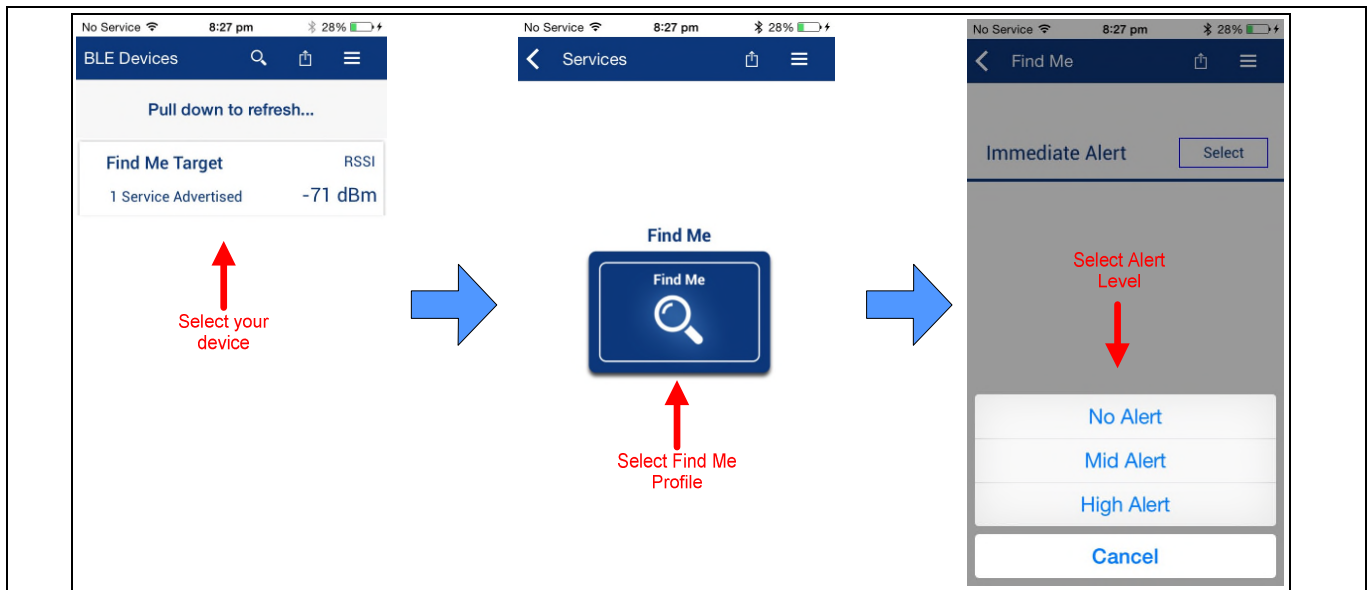
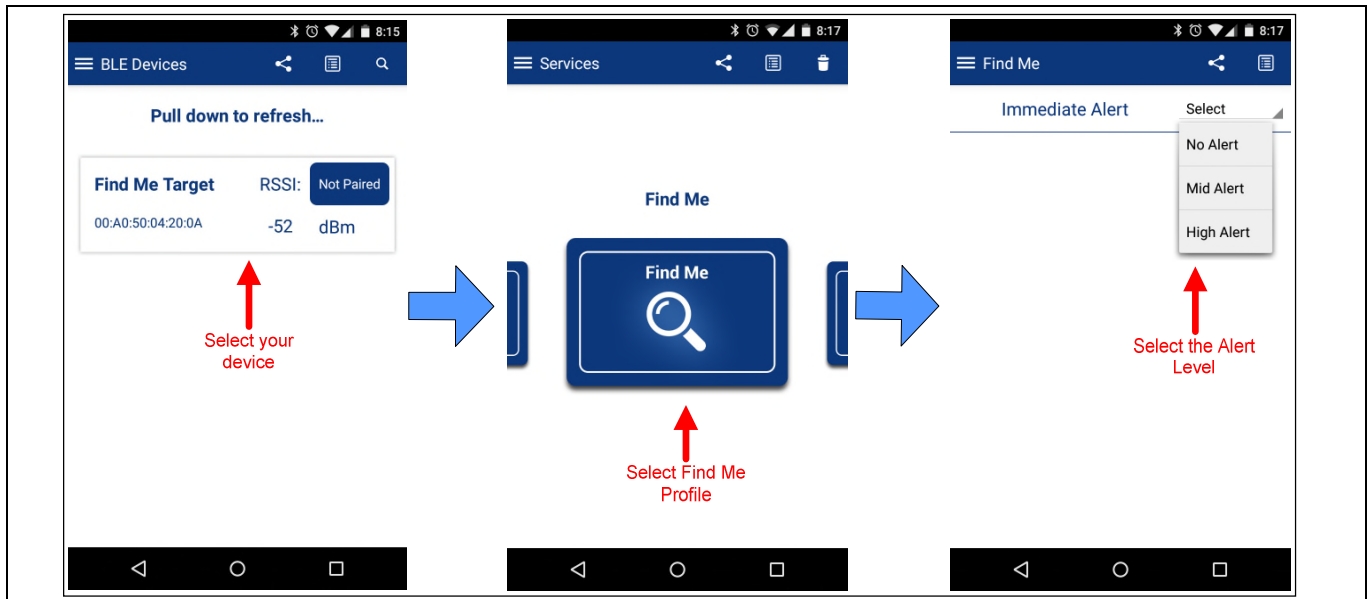

Figure 31 Testing with the AIROC™ Bluetooth® Connect app on iOS
Figure 32 Testing with the AIROC™ Bluetooth® Connect app on Android
- To test using the AIROC™ Bluetooth® Connect mobile app, follow these steps (see equivalent AIROC™ Bluetooth® Connect app screenshots in Figure 31 for iOS and Figure 32 for Android).